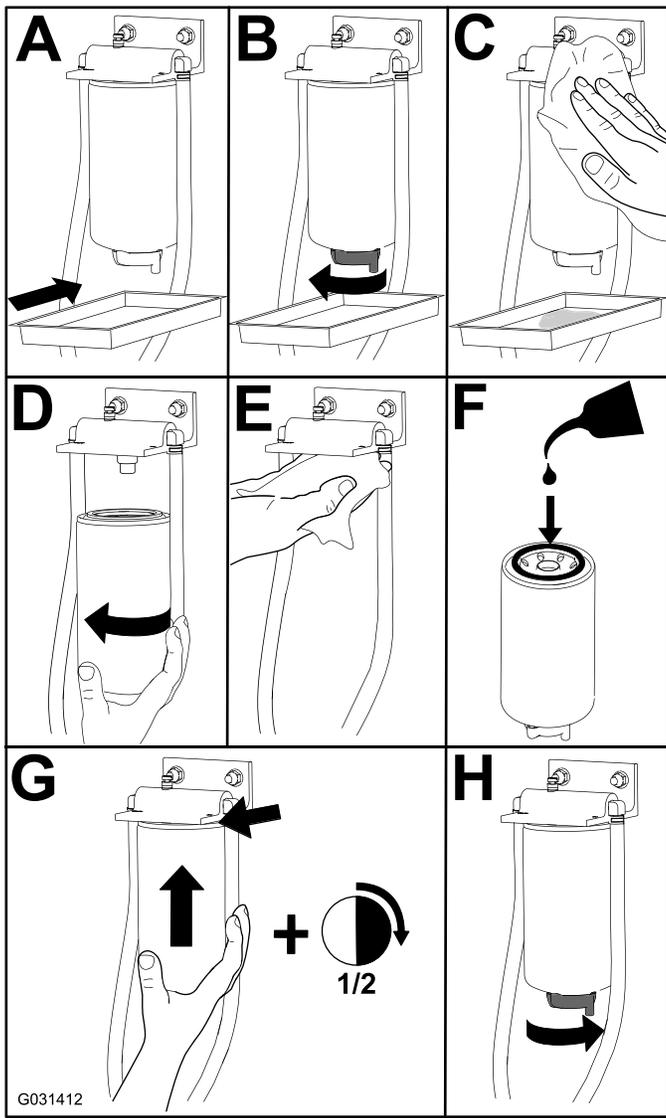

Figure 87
1. Replace the filter as shown in Figure 87.